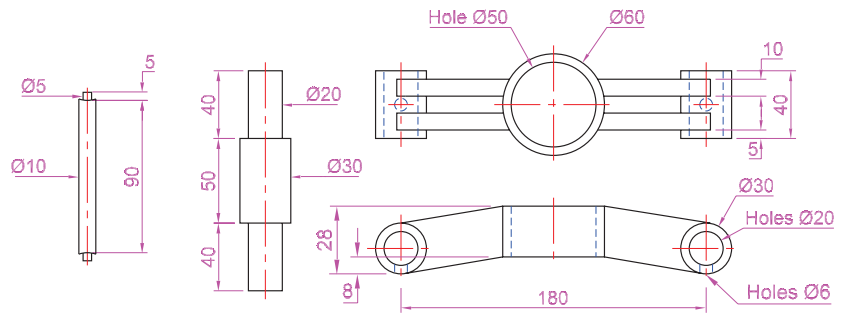

Fig. 19.1 Example – Raster image in a drawing – details
This example shows the raster file **Fig14.bmp** of the 3D model constructed to the details given in the drawing of Fig. 19.1.
1. Construct the 3D model to the shapes and sizes given in Fig. 19.1 working in four layers, each of a different colour.
9. Open the orthographic projection drawing of Fig. 19.1 in AutoCAD.